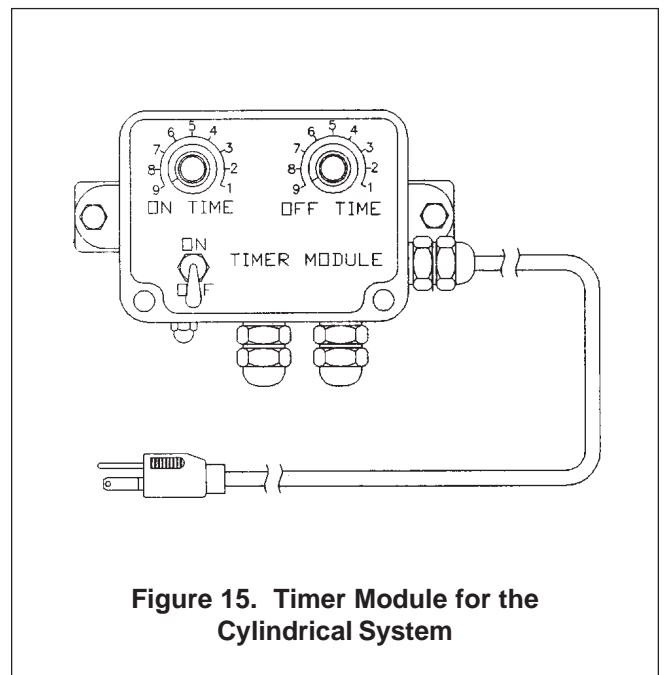

**Figure 14. Counter Module for the Standard and Press Mount Systems**
**COUNTER MODULE FOR THE STANDARD AND PRESS MOUNT SYSTEMS.** (See Figure 14.)